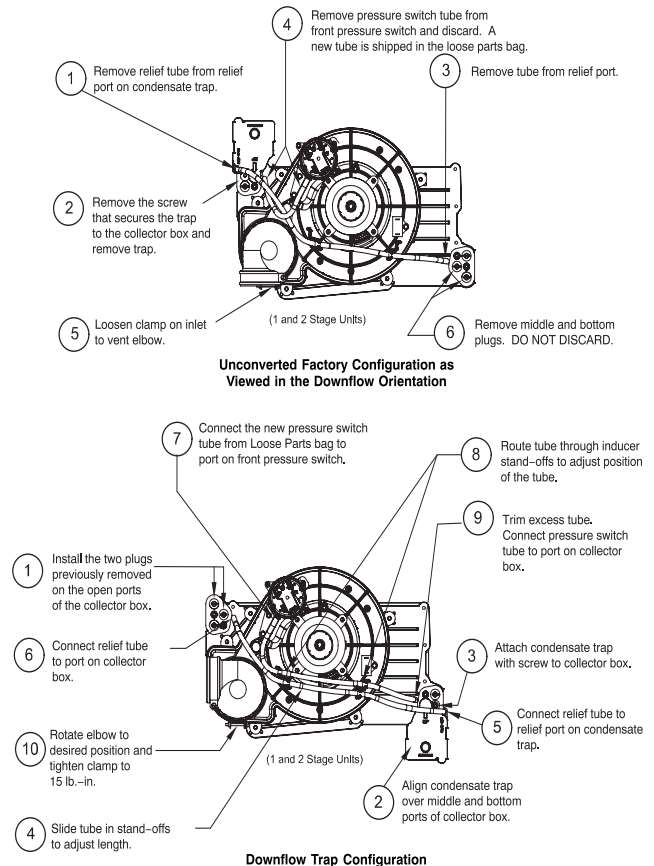

Fig. 9 – Downflow Trap Configuration
When the furnace is installed in the downflow position, the condensate trap will be initially located at the upper left corner of the collector box, as received from the factory. See the top image in Fig. 9. When the
furnace is installed in the downflow orientation, the condensate trap must be relocated for proper condensate drainage. See the bottom image in Fig. 9.
- Fig. 9 shows the condensate trap and tubing before and after relocation. Refer to Fig. 9 to begin the trap conversion.